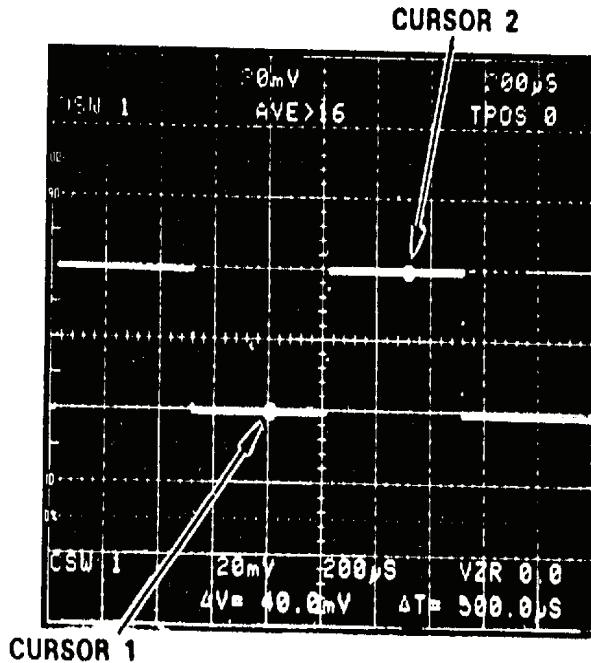

Figure 7. Check vertical linearity.
(1) Press **MENU/TEST**, **MEMOR DISPLAY 4, 5, 6** and **MENU/TEST** pushbuttons.
(2) Press **f** (function) and **CURSOR ΔON** pushbuttons.
(3) Set **CH 1 VOLTS/DIV** switch to **20 mV**.
(4) Set **TIME/DIV** switch to **200 μs**.
(5) Connect oscilloscope calibrator **SOURCE/MEASURE CHAN 1** output TI CH 1 input and set oscilloscope calibrator frequency for 1 kHz and output amplitude to 50 mV.
(6) Adjust **CURSORS 1** and **2** as shown in figure 7.
(7) Press **AVE N** pushbutton.
(8) Adjust **CH 1 POSITION** control to move 2 division display over the entire graticule area. The **CURSOR** readout display should not vary more than 2.4 mV.
(9) Press **AQR MODE CH 2→2** pushbutton.
(10) Connect oscilloscope calibrator **SOURCE/MEASURE CHAN 1** output to TI CH 2 input and set **CH 2 VOLTS/DIV** to **20 mV**.
(11) Adjust **CH 2 POSITION** control to move 2 division display over the entire graticule area. The **CURSOR** readout display indication should not vary more than 2.4 mV.